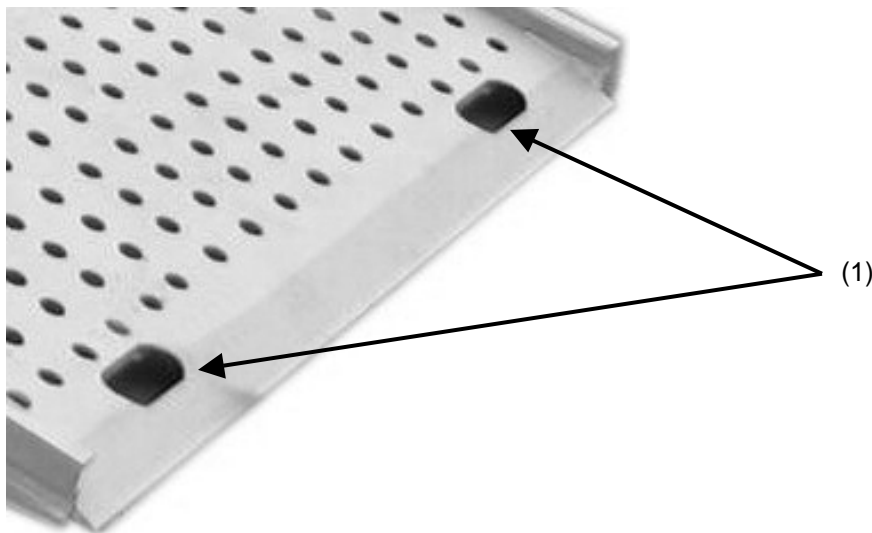

Figure 2-5. 4' x 14' ramp handles.
2. Remove ramp by grabbing handles (1) and pulling it straight out (Fig. 2-5).